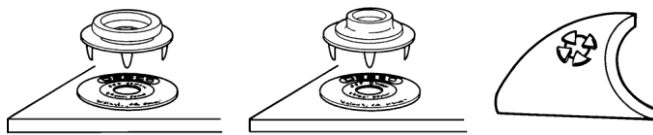

Figure 9. Installing push and clinch mat grounding snap.
3. The second type of mat grounding snap is the push and clinch snap. This snap is designed for use with any type of soft mat material: dissipative, conductive or multi-layered. It is recommended for use with three-layered material, because it provides excellent contact with the internal conductive scrim layer. It is recommended that before inserting this snap, the mat be punctured with a sharp tool where the snap will be placed. Take precautions not to cut your hand. Push and Clinch snaps are available as a snap stud as item 09861 and as a snap socket as item 09863.
- B. Center the prongs on the snap assembly with the label. Apply pressure to the snap until the prongs come through the back of the mat, then clinch over prongs to secure snap as shown in Figure 9.